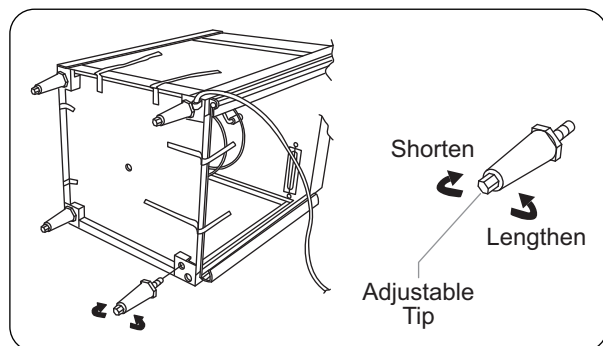

Figure 13. Installing and Leveling Legs
4. Screw the 4" (102 mm) legs into the holes provided. After all the legs are tightened, return the unit to its upright position. If the unit is not level or rocks, turn the adjustable tip of the appropriate leg to correct the condition. (See Figure 13.)